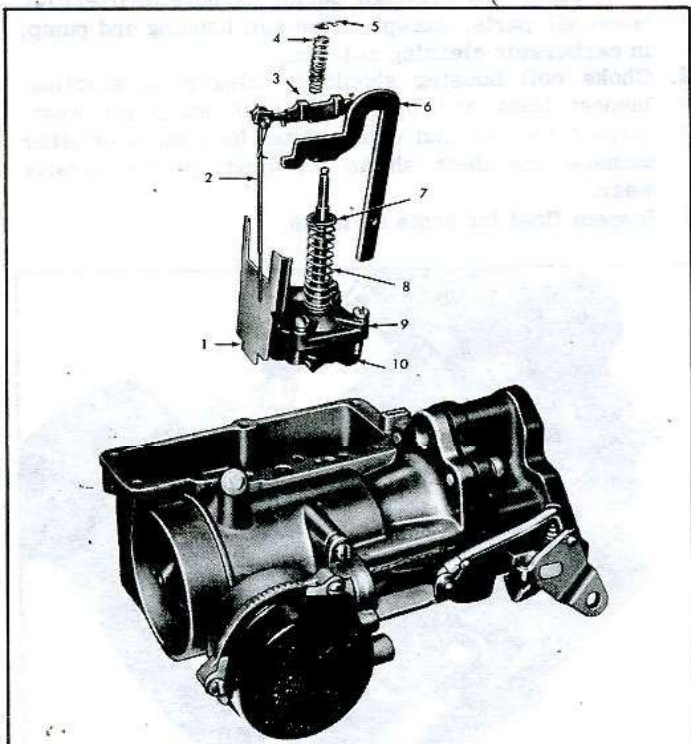

Fig. 29—Pump and Metering Rod Assembly
8. Install metering rod onto the metering rod arm, hook the spring and install retainer clip (fig. 29).